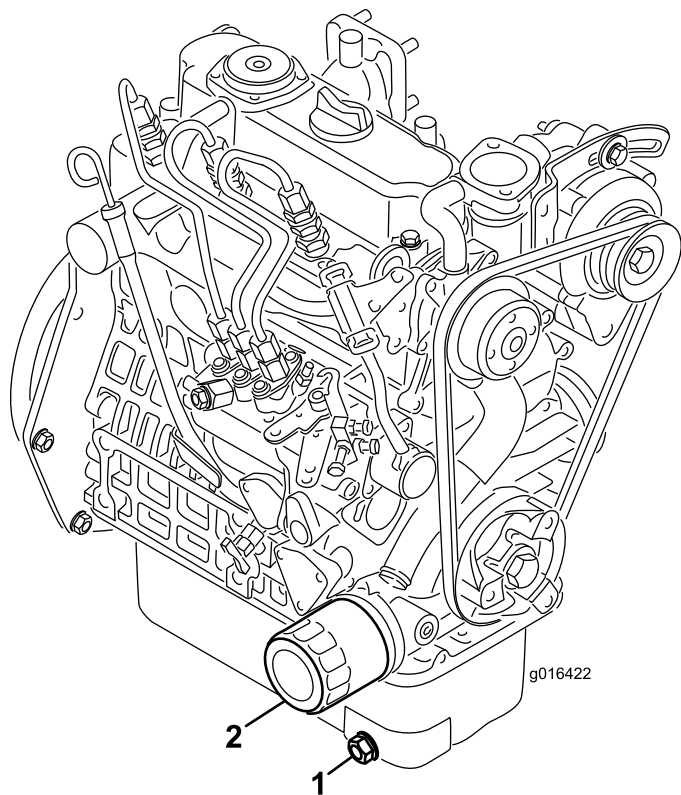

Figure 35
1. Remove the drain plug (Figure 35) and let the oil flow into a drain pan. When the oil stops, install the drain plug.